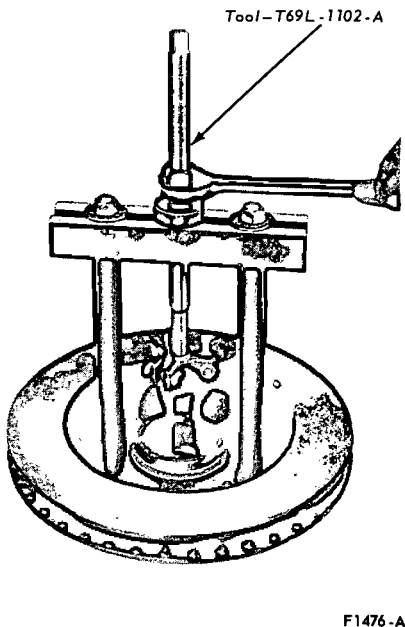

FIG. 2 Removing Front Wheel Bearing Cups—Disc (Drum-Type Similar)
inspect the cups for scratches, pits, excessive wear, and other damage. If the cups are worn or damaged, remove them with Tool T69L-1102-A (Fig. 2).
5. Remove the grease cap from the hub. Remove the cotter pin, nut lock, adjusting nut, and flat washer from the spindle. Remove the outer bearing cone and roller assembly (Fig. 2, Part 11-02, Section 1).
8. Clean the lubricant off the inner and outer bearing cups with solvent and inspect the cups for scratches, pits, excessive wear, and other damage. If the cups are worn or damaged, remove them with Tool T69L-1102-A (Fig. 2).